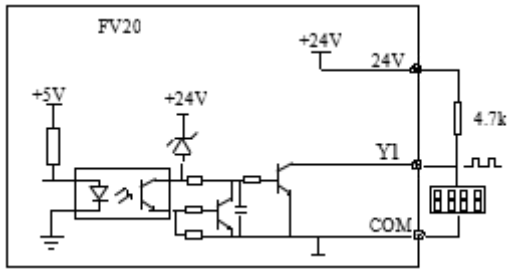

Fig 4-15 Wiring method 1 of output terminal Y2
3. Y1 can also be used as pulse frequency output, If Y2 uses the internal 24V power supply. The wiring is shown in Fig.4-15.